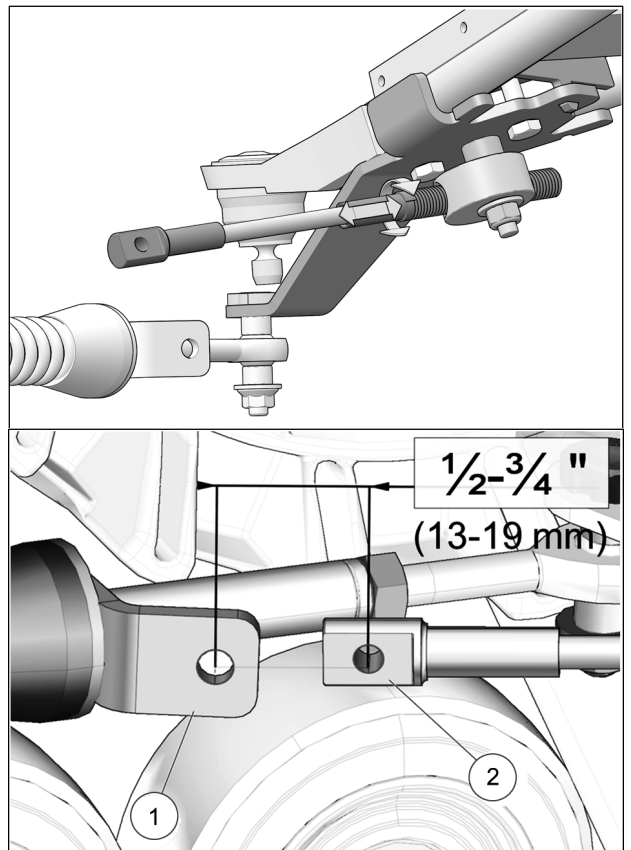

Fig. 25
13. Turn the vehicle's steering wheel to its maximum point of travel on the left. While maintaining pressure on the steering wheel, turn threaded rod to adjust length of cable so that the cable end hole (**1**) is located 13 to 19 mm [ $\frac{1}{2}$  to  $\frac{3}{4}$  in.] short of the mounting hole on the support plate (**2**). See Fig. 25